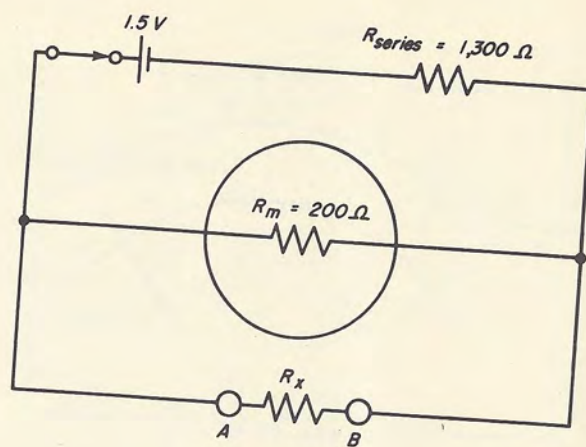

Fig. 11-19
**Shunt-Type Ohmmeter.** Another method of measuring resistance is shown in Fig. 11-19. It is called the *shunt-type ohmmeter* because the resistor being measured is placed in shunt with the meter movement. It uses a 1.5-volt dry cell instead of the 4.5-volt battery used in the other circuit. All that is necessary is to find the resistance that permits the flow of 1 ma when 1.5 volts is applied. From this, we subtract the resistance of the meter and the remainder is the resistance of the series resistor.